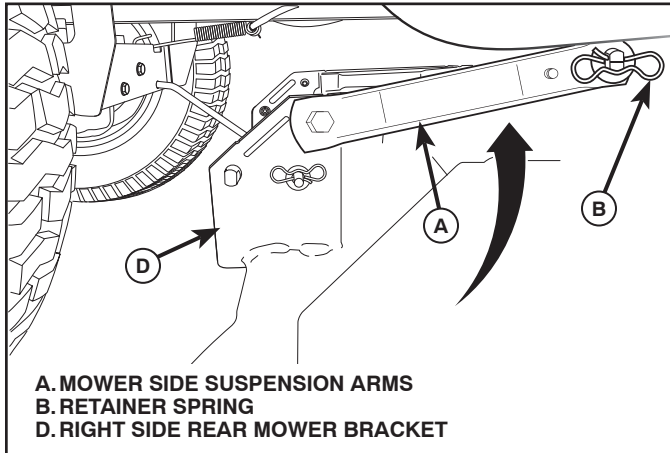

Fig. 33
6. ATTACH MOWER SIDE SUSPENSION ARMS (A) TO CHASSIS (See Fig. 33)
- Position front hole in side suspension arm (A) over pin on outside of tractor chassis and secure with large washer and large retainer spring (B).